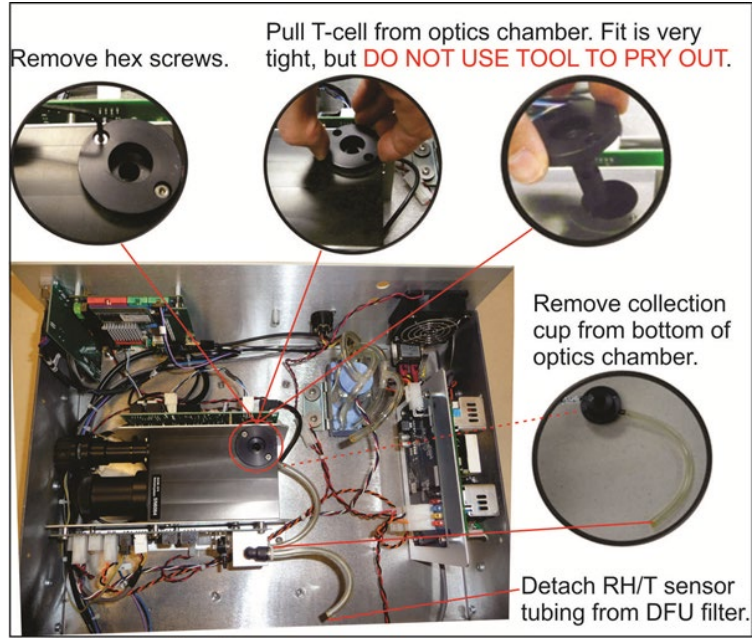

Figure 9. Maintenance: Optical Chamber Disassembly
14. Remove the optical cell from the optics chamber, and remove the cup, including its tubing, from the optics chamber bottom; detach the RH/T sensor tubing from the DFU filter (Figure 9). It is very important that all components are disassembled before blowing air into the chamber.